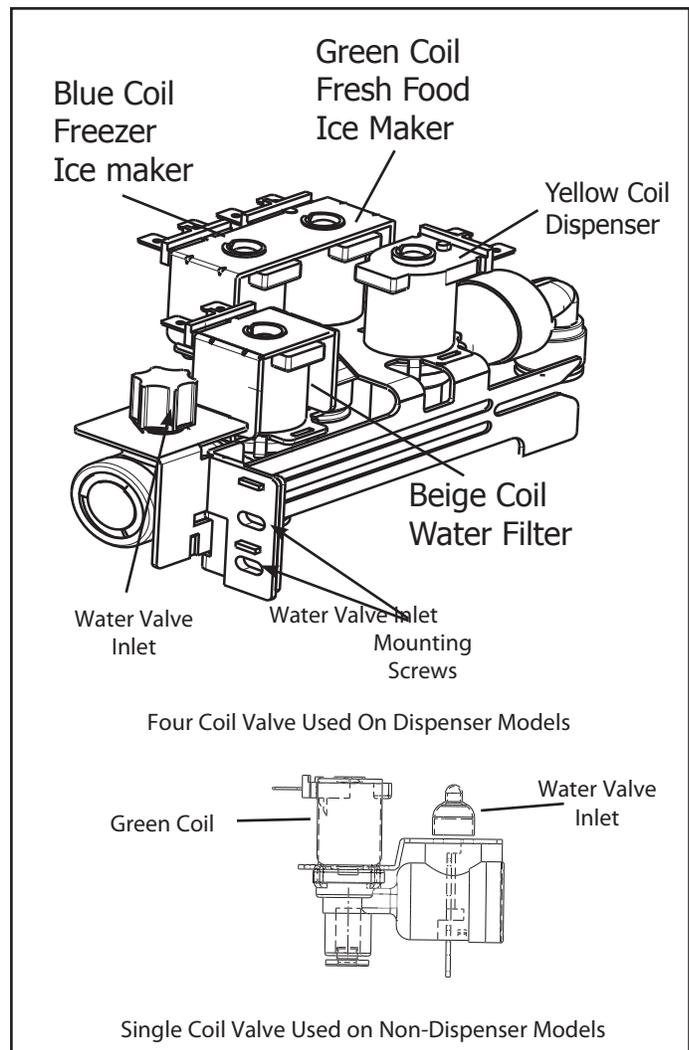

Figure 6-100.
2. Remove the compression nut and ferrule from the water valve inlet. (See Figure 6-100)